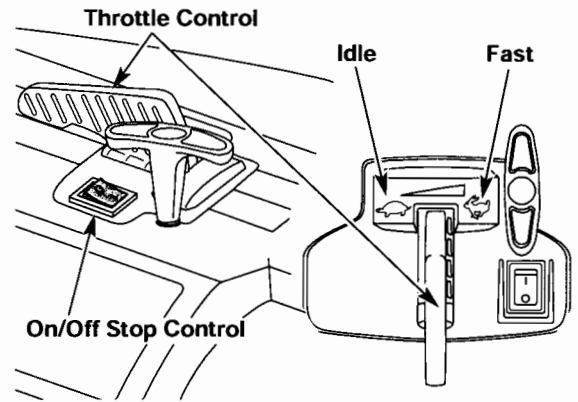
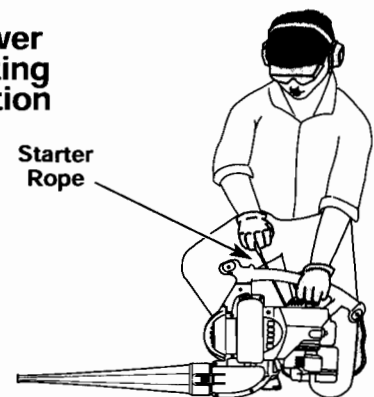
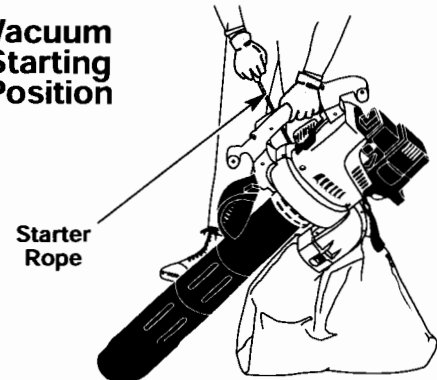

Fig. 10
Fig. 12
Fig. 13
WARNING: Avoid accidental starting. Make sure you are in the starting position when pulling the starter rope (Fig. 12 and 13). To avoid serious injury, the operator and unit must be in a stable position while starting. Do not set unit on any surface except a clean, hard area while starting. Debris such as gravel, sand, dust and grass could be picked up by the air intake and thrown out by the discharge opening. This could damage the unit, property, or cause serious injury to bystanders or the operator.
3. Place the unit in the starting position (Fig. 12 as a blower, Fig. 13 as a vacuum). *Move the throttle control to the **idle position** (☛) (Fig. 10).* This is especially important during cold starting.